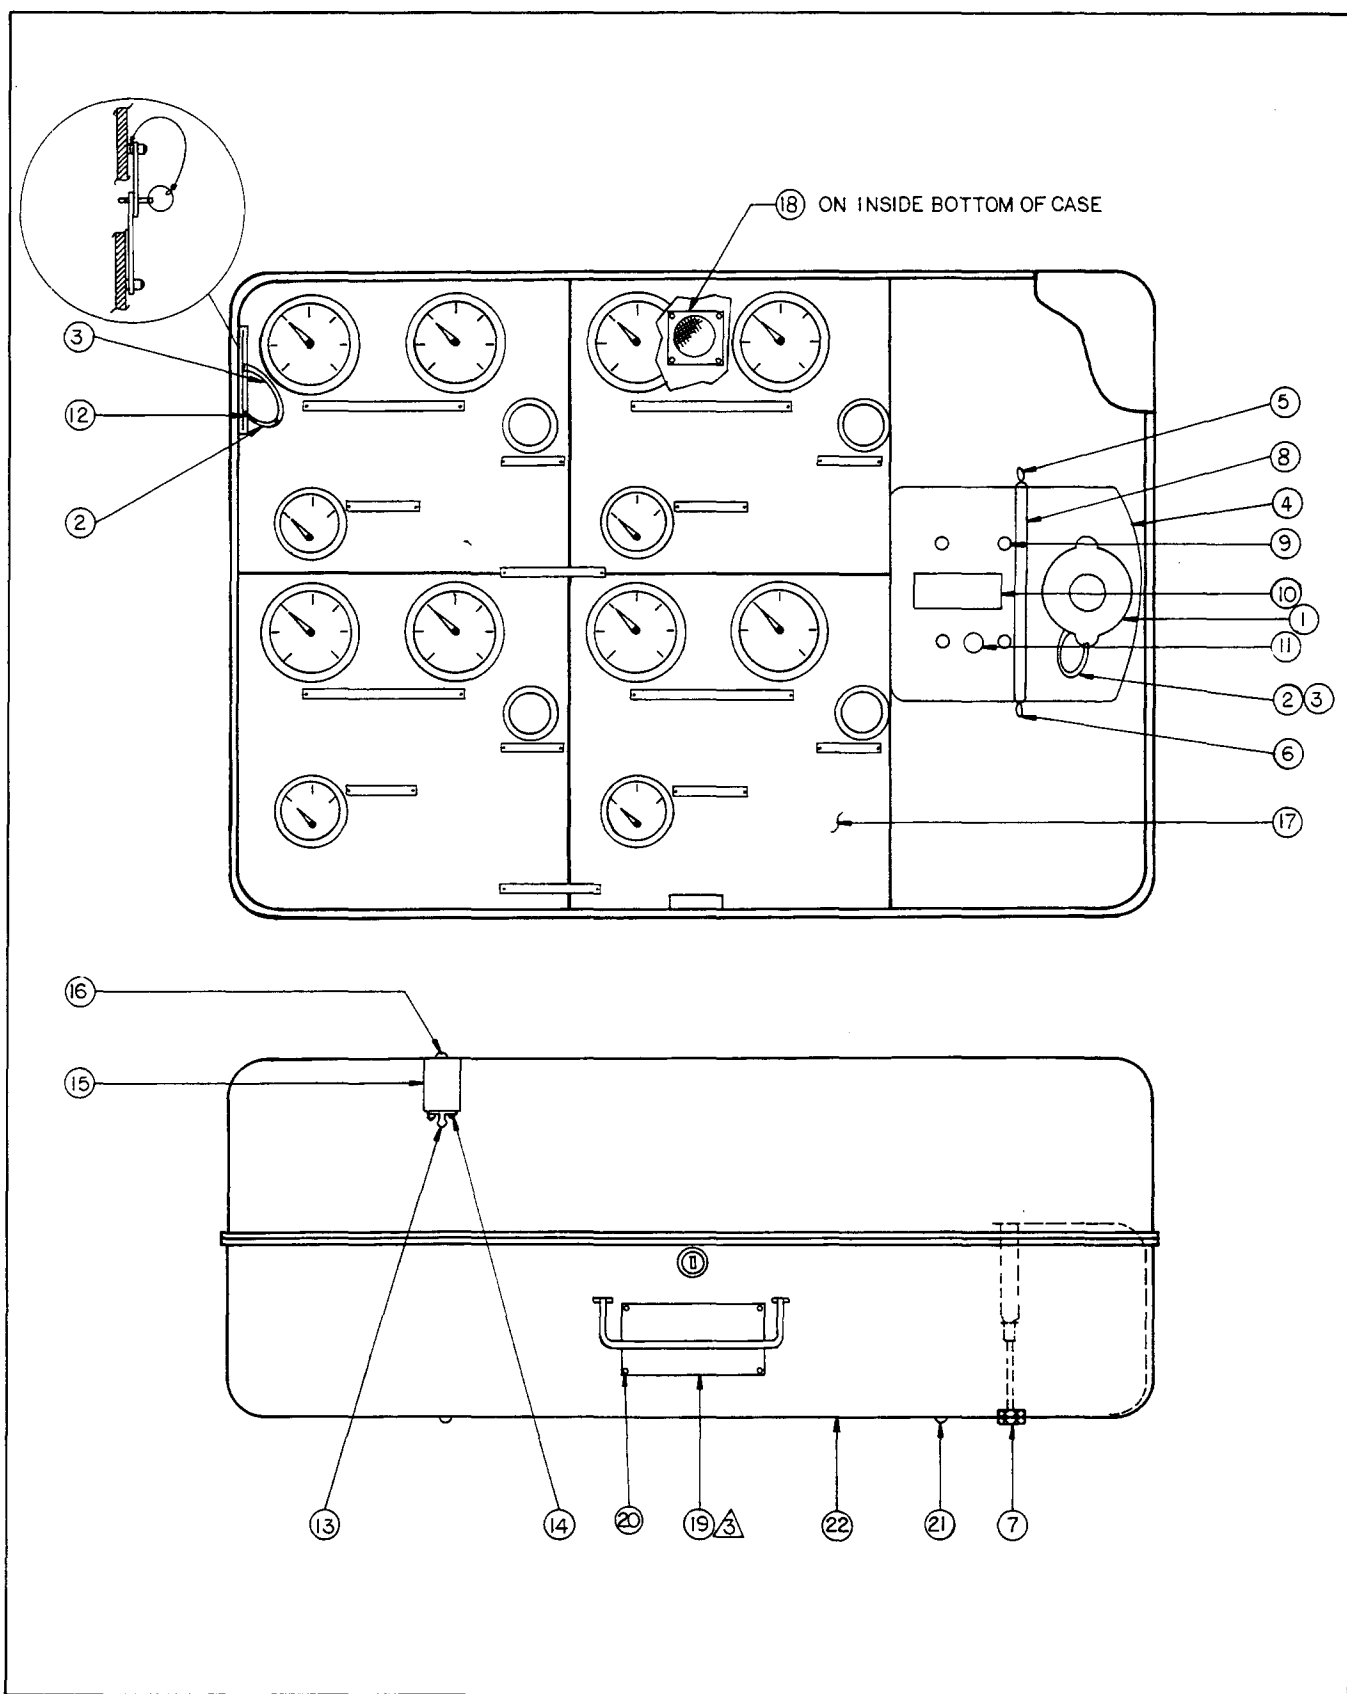

Figure 3-2. Brake Pressure Test Set
a. To prepare the unit for storage, secure the dust plugs (40, Figure 3-1) and dust caps (37) to each coupling (41). Roll up hoses (2, 3), four each, and place in case. Place couplings in their respective brackets (15, Figure 3-2) and close toggle clamps (13). Remove strap (8) from hook (6) and remove and empty waste tank (4). Replace waste tank and secure with strap. Assure pressure cap (1) is installed onto waste tank (4). Assure that no pressure is indicated on gages (24, 27 and 32, Figure 3-1) and that the bleed valves (14) are closed.